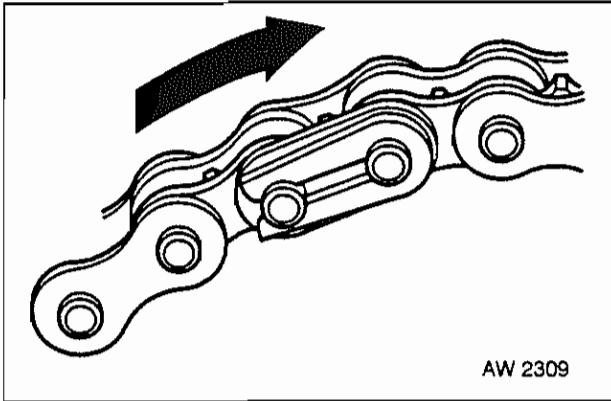
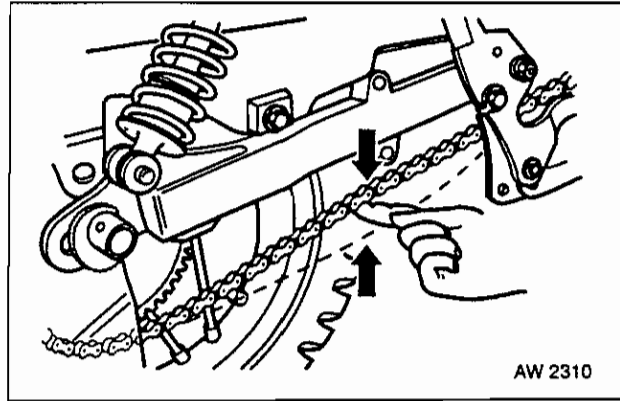

Fig 11.11 Master Link Clip Installation
Fig 11.12 Chain Free Play (Gun Carrier removed for illustration)
- e. Refit in reverse order, ensuring equal chain adjustment as in Fig 11.12. Fit new split pin, and ensure chain split link is correctly assembled (Fig 11.11). Check rear brake for operation.
- c. At installation ensure the master link clip is fitted with its closed end facing the direction of chain travel (Fig 11.11 refers).
- c. Adjust rear wheel position by means of snail cams to give a free play in the chain of 40-50 mm (1.6-2") measured at the centre of its run (Fig 11.12 refers).